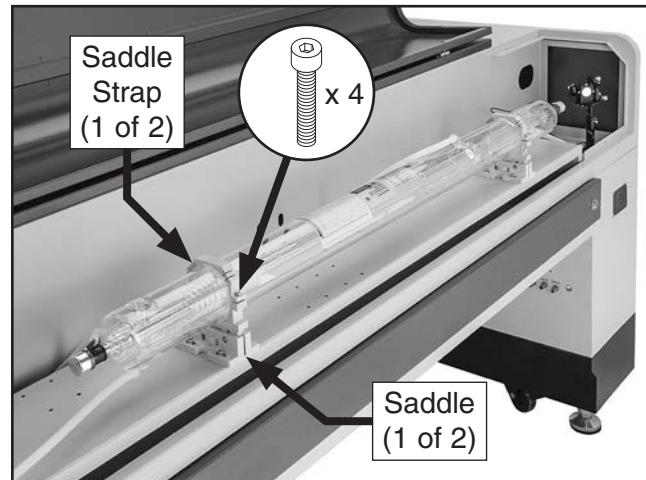

Figure 97. Laser tube saddle components.
- Remove saddle-strap cap screws in an alternating pattern, and then remove saddle straps (see **Figure 97**).